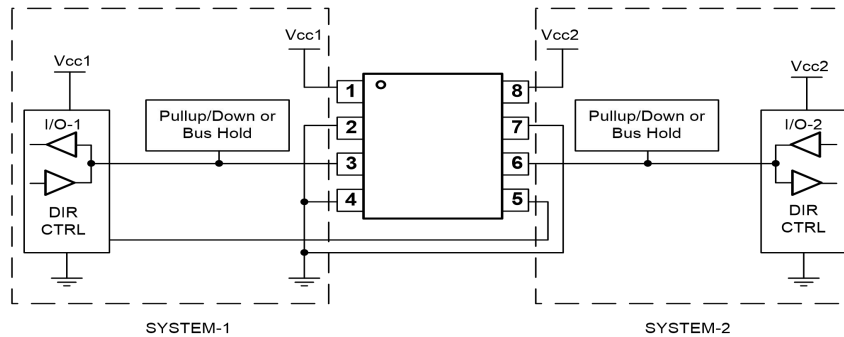

Fig.11-1. Typical Application Circuit
Fig.11-1 shows the GT74LVC2T45 being used in a bidirectional logic level-shifting application. Because the GT74LVC2T45 does not have an output-enable (OE) pin, the system designer should take precautions to avoid bus contention between SYSTEM-1 and SYSTEM-2 when changing directions.